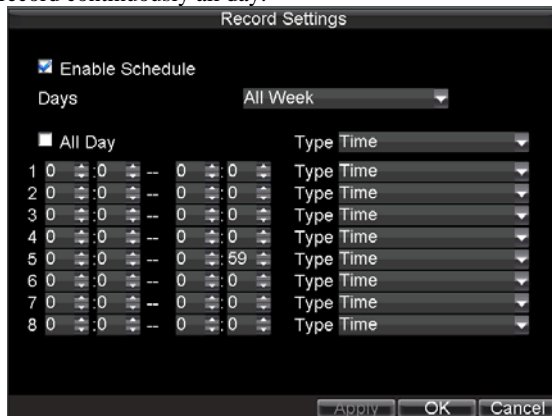

Figure9. Edit Schedule Settings
18. Click *Edit* button to enter a new recording schedule, shown in Figure 9.